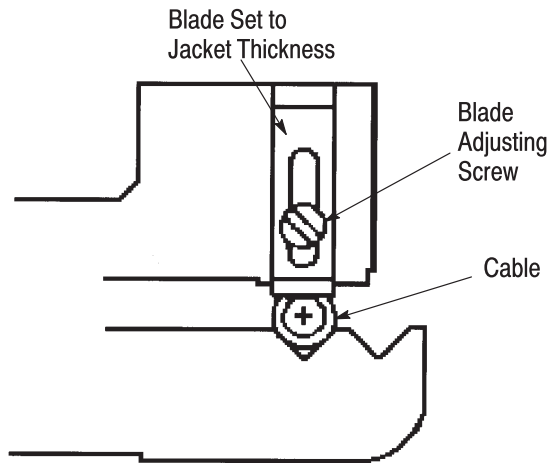

Figure 2
4. Using a sample cable, check for proper blade-height adjustment. See Figure 2. Follow the stripping procedure listed in Paragraph 3.2 and perform a test strip. Re-adjust the stripper if necessary.
- Added new Figure 2 and renumbered